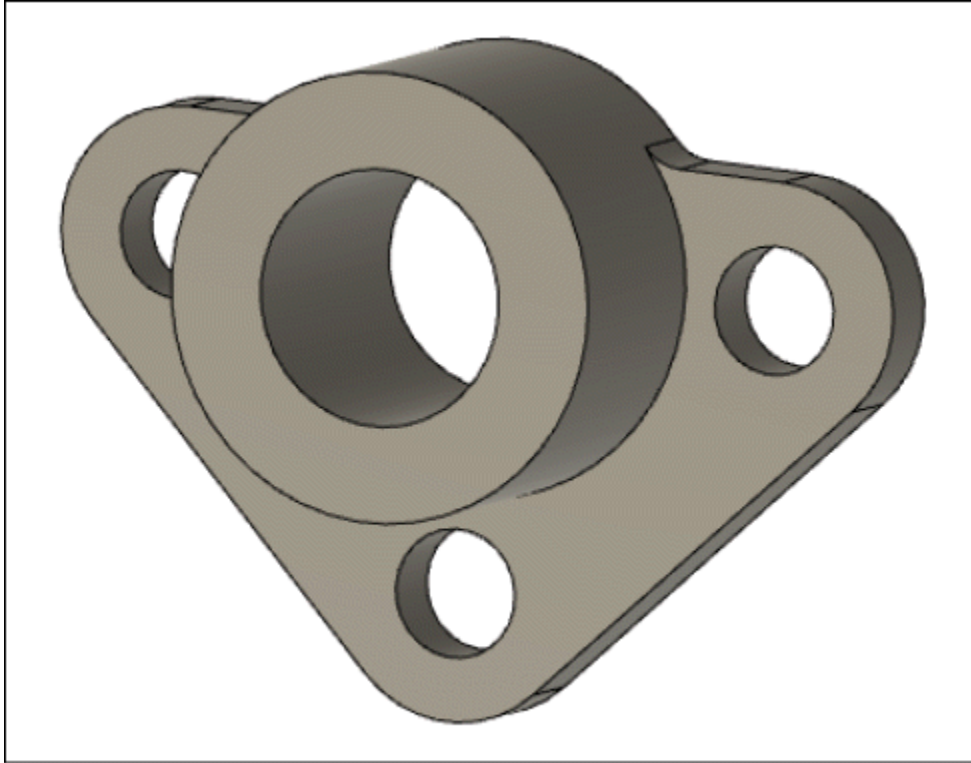

Figure-46. Second sketch extruded
- Click on the **OK** button from **Extrude** dialog box to finish the extrusion. The second sketch will be extruded; refer to Figure-46.